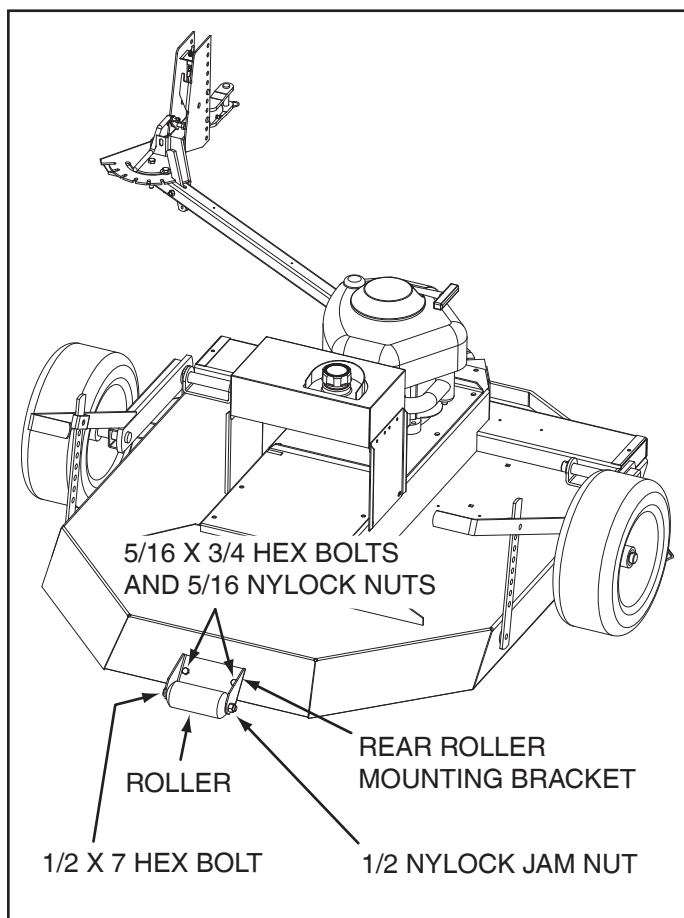

FIG. 3
- Install Rear Roller Mounting Bracket to rear of deck using two 5/16 x 3/4 Hex Bolts and two 5/16 Nylock Nuts from parts bag. (See Fig. 3.)